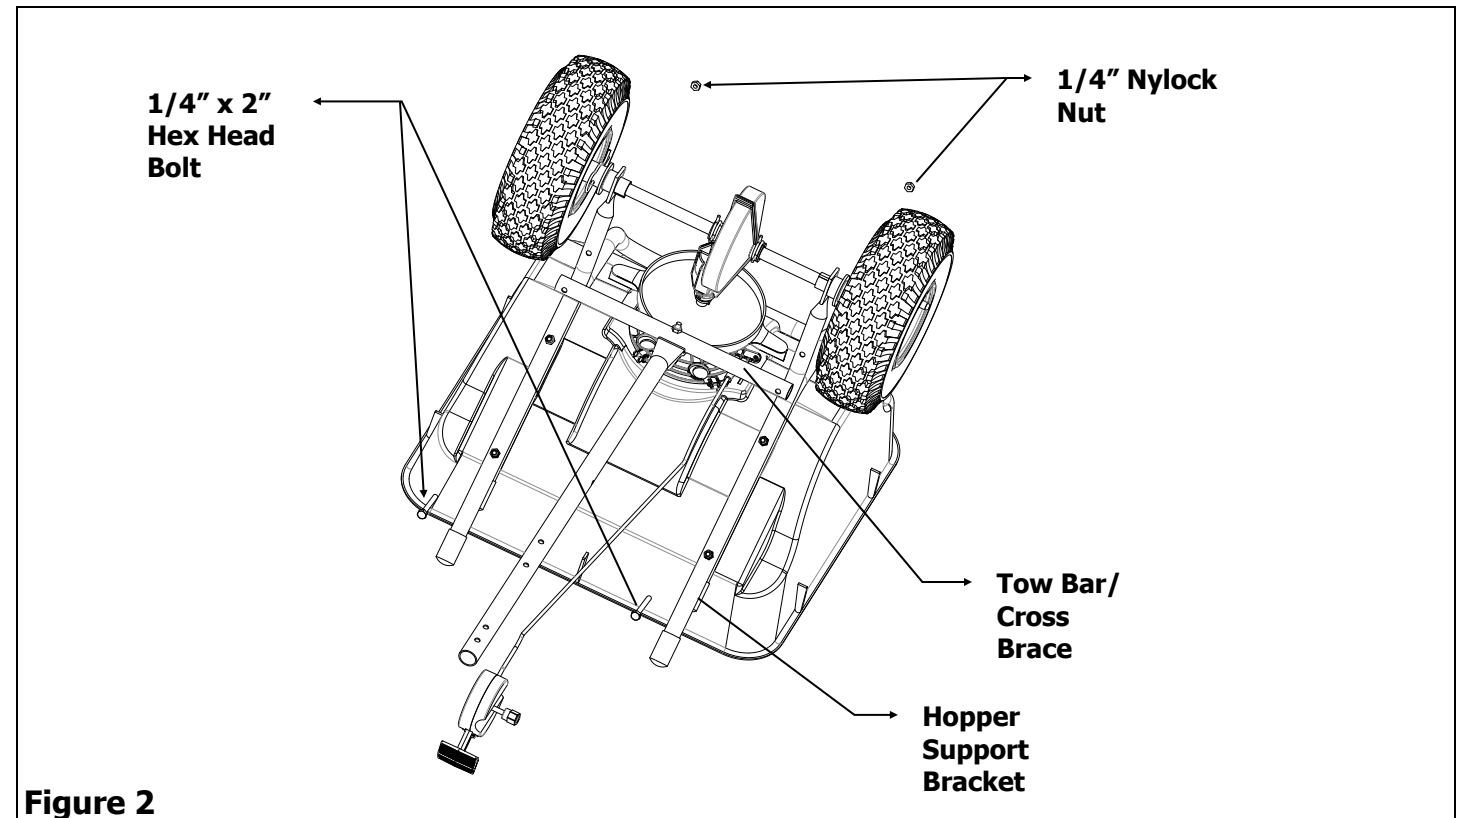

Figure 2
2. Attach Tow Bar/Cross Brace assembly to the Hopper Supports using two 1/4" X 2" Hex Head Bolts and two 1/4" Nylock Nuts. See Figure 2.